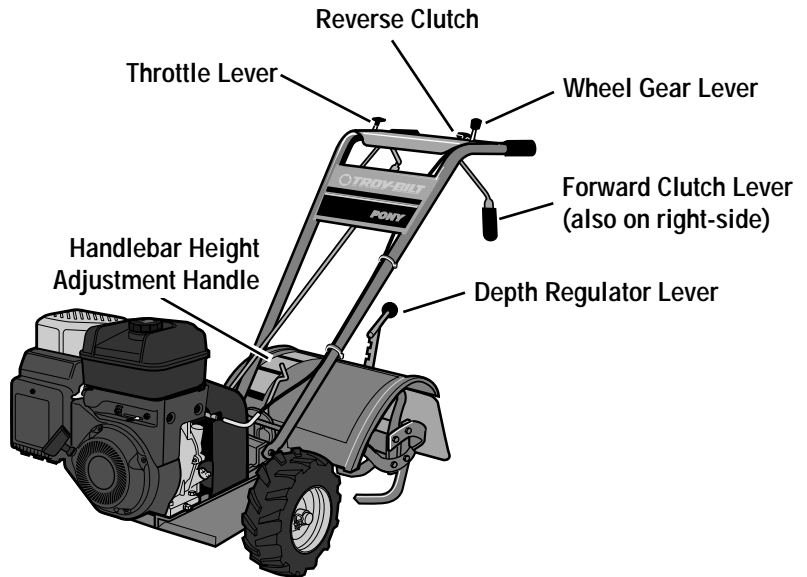

Figure 4-1: Location of main tiller controls.
2. Put the Wheel Gear Lever (Figure 4-1) in the ENGAGE position.
5. Put the Engine Throttle Lever (Figure 4-1) in the "START"  setting.